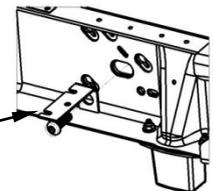

Figure 2c
7. Fasten the frame brackets to the vehicle frame rails as shown in Figure 1. Pass the cap head bolt (6) through the 5/8" conical washer (4) and then the rearward slot interior of the truck frame. Place the mounting bracket (1), 5/8" conical washer (4), and the 5/8" nut (3) on and hand tighten. On Pickups with OE Brake Controller, refer to installation step 2 to relocate the plug with the angle bracket. Use the cap head bolt (6) to attach the angle bracket to the inside of the frame (see Figure 2c), the angle bracket will go between the flat washer and the frame.
8. Passing the 1/2" carriage bolts (9) through the top and bottom slots in the reinforcement block (10) will create a clamping strap that will go inside the frame rail and connect to the mounting bracket. There are two different sets of holes in the mounting bracket that allow for the best clamping surface to the truck frame. Changing the mounting bracket holes will allow the clamping strap to move truck forward or rearward. Once the strap bolts have been passed through the best mounting holes thread the reinforcement block (10), 1/2" conical washer (8), and the 1/2" nut on to the bolts and hand tighten.